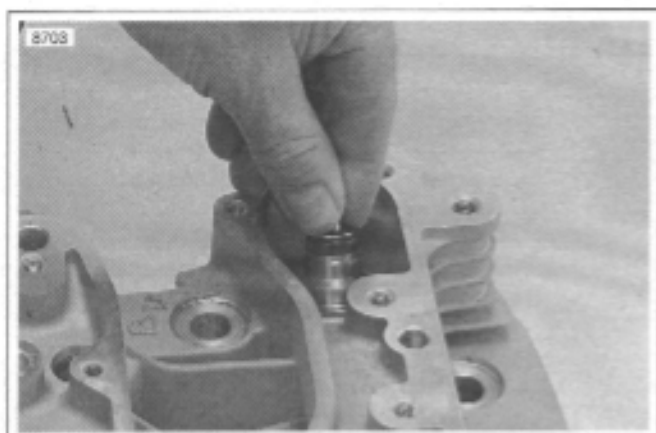

Figure 3-83. Valve Seal and Lower Collar Assembly Installation
7. See Figure 3-83. Coat the sleeve with oil and place a **new** seal and lower collar assembly over the valve stem and onto valve guide.